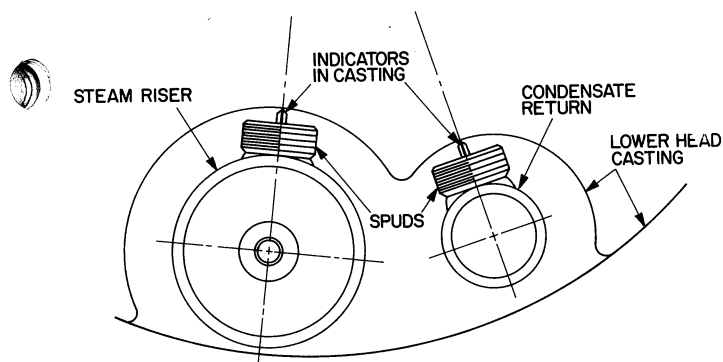

Figure HE-107-9 -- Alignment of Steam Riser and Condensate Return
- b. Turn the Riser and/or Return in leak tight, but carefully line up the spud centers with the raised indicators on the bosses in the Lower Head casting as shown in Figure HE-107-9.